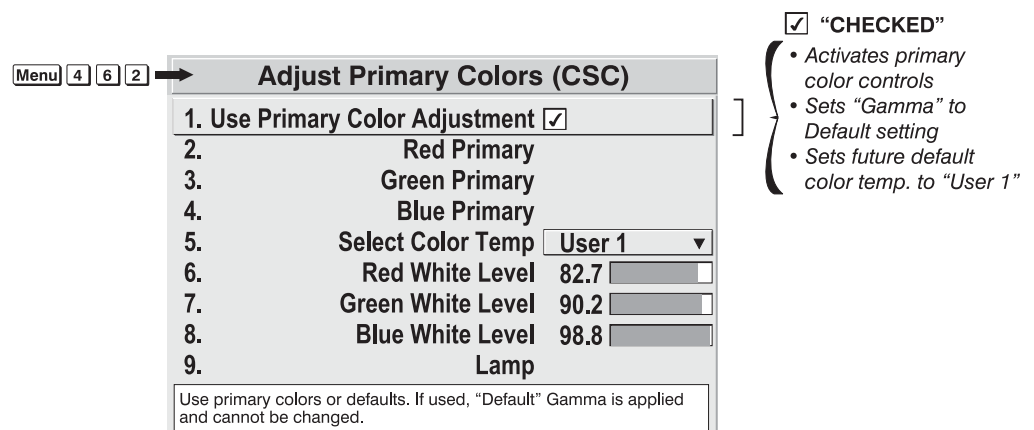

Figure 3.38. Enabling Primary Color Adjustment
- 2a) **ENABLE PRIMARY COLOR ADJUSTMENT:** In the *Adjust Primary Color (CSC)* menu (Menu 4 6 2), enter a checkmark in the “Use Primary Color Adjustment” checkbox so that primary color controls can be adjusted and applied to the image. See Figure 3.38.